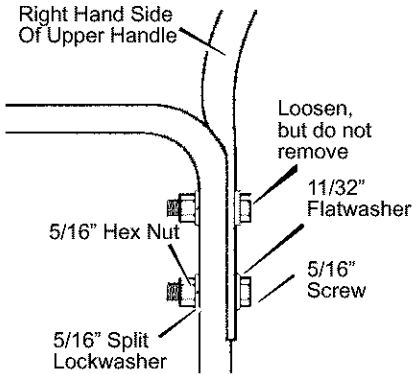
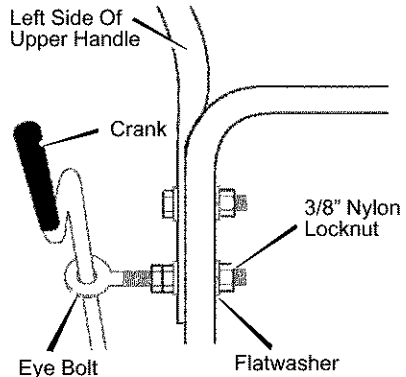

Figure 3
Figure 5
3. Loosen, but do not remove, the screws, flatwashers, lockwashers, and hex nuts in the upper holes of the lower handle. See Figure 3.
4. Remove the fasteners and the eye bolt from the lower holes of the lower handle. See Figure 3 and Figure 5.